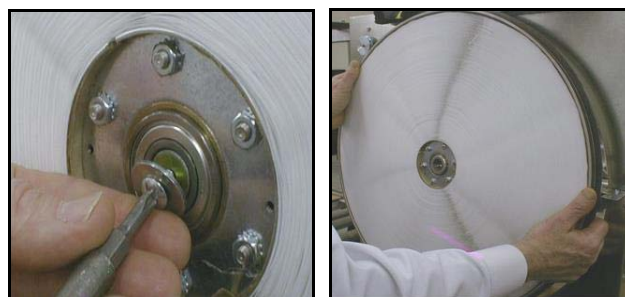

Figure 13 Remove center screw and wheel from frame.
- 6 Remove center screw from the end of the wheel shaft, Figure 13.